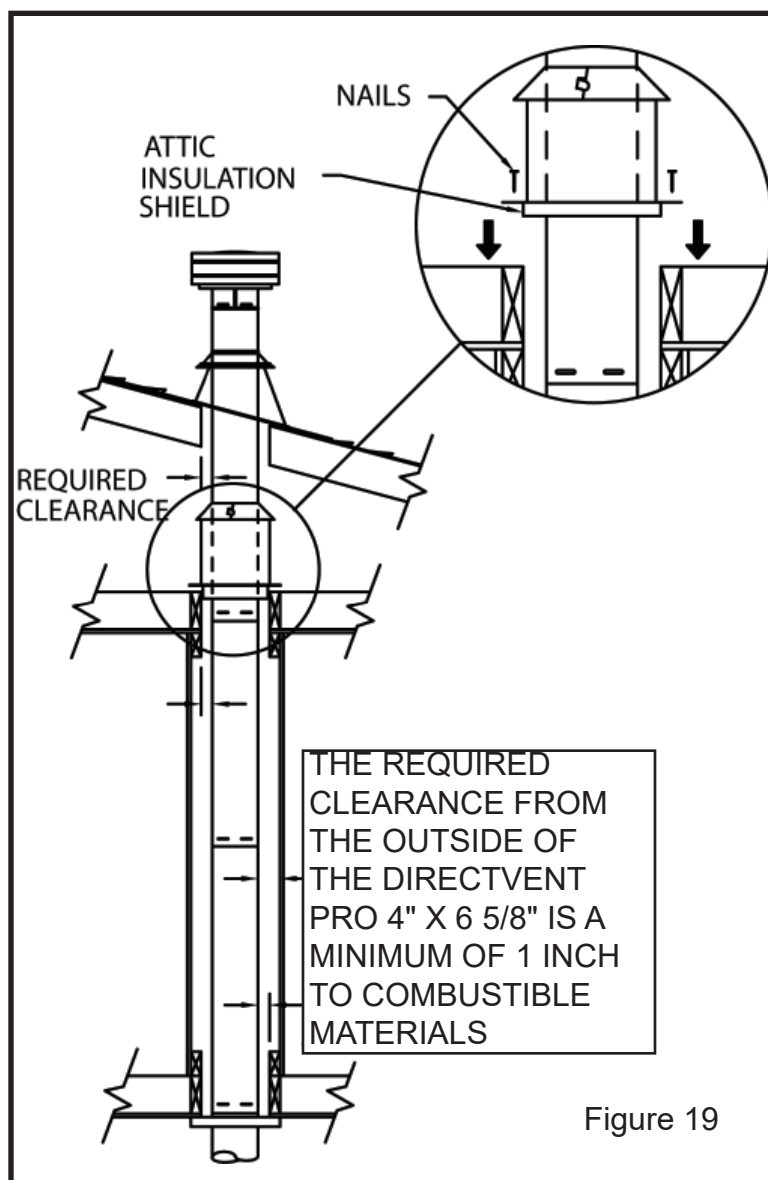

Figure 19
- (1) For multi-story vertical installations, a Ceiling Firestop is required at the second floor, and any subsequent floors (Fig. 19). Refer to Table 1, page 8. Cut and frame a square opening for installation of the Ceiling Firestop.
- (2) If Vent passes through any occupied areas above the first floor, including closets and storage spaces, it must be enclosed. The enclosure may be framed and sheetrocked with standard construction materials, but required 1" clearance to combustibles must be maintained. Do not fill required air spaces with insulation.
- (3) If venting system passes through an attic space the Attic Insulation Shield or a chase enclosure must be installed to prevent contact between Pipe Sections and the insulation or other debris. For the Attic Insulation Shield, nail the base to floor of attic and adjust shield for appropriate insulation level, then attach the collar at the top of assembly (Fig. 19).
Pipe Sections and the insulation or other debris. For the Attic Insulation Shield, nail the base to floor of attic and adjust shield for appropriate insulation level, then attach the collar at the top of assembly (Fig. 19). For a chase enclosure, it may be constructed out of sheetrock or similar building materials and framed around the support box or the pipe, maintaining the 1" clearance to combustibles. For vaulted ceilings a chase enclosure must be constructed as the Attic Insulation Shield can not be installed.
Pipe Sections and the insulation or other debris. For the Attic Insulation Shield, nail the base to floor of attic and adjust shield for appropriate insulation level, then attach the collar at the top of assembly (Fig. 19). For a chase enclosure, it may be constructed out of sheetrock or similar building materials and framed around the support box or the pipe, maintaining the 1" clearance to combustibles as required by the appliance manufacturer. For vaulted ceilings a chase enclosure must be constructed as the Attic Insulation Shield can not be installed.